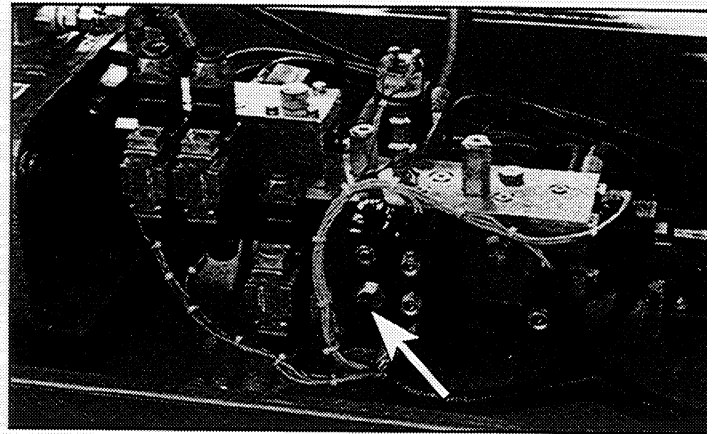

Figure 2-2: Emergency Lowering Valve
5. Close the emergency lowering valve (Figure 2-2), if necessary.
6. Open the chassis emergency lowering valve (Figure 2-2).